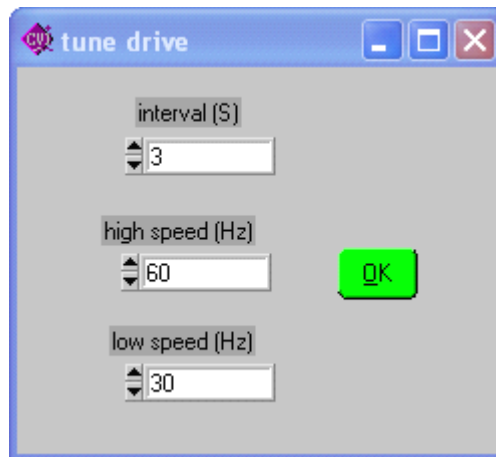

Fig. 7 Tune Drive Window
Step 2: Open “tune drive” by clicking on “Tune Drive” button in main GUI window. “tune drive” window pops up (Fig. 7). In tuning process, GUI sends out a square waveform speed command: high speed is given by the “high speed (Hz)”, low speed
Step 3: Open “tune drive” by clicking on “Tune Drive” button in main GUI window. “tune drive” window pops up (Fig. 7). In tuning process, GUI sends out a square waveform speed command: high speed is given by the “high speed (Hz)”, low speed is given by the “low speed (Hz)”, and interval between each speed command change is given by the “interval (S)”. Select desired high speed, low speed and interval. Click on “Ok” button to close the window.